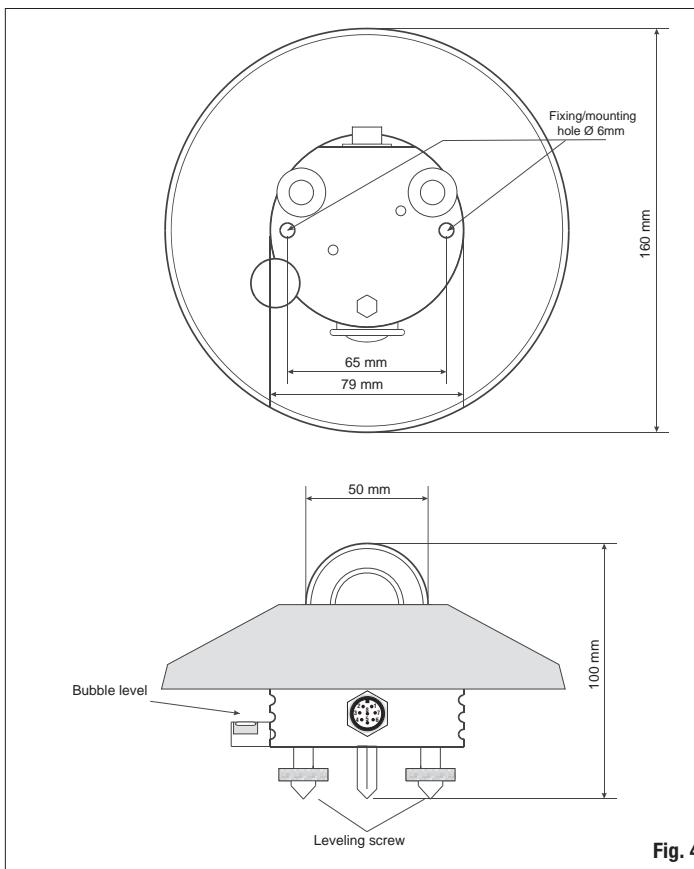

Fig. 4
- The LP UVB 02 radiometer is provided with a spirit level for carrying an accurate horizontal leveling. The adjustment is made by means of two leveling screws that allow to adjust the radiometer inclination. Use the two 6mm-diameter and 65mm-interaxial-distance holes to mount the instrument on a plane. Remove the shade disk to access the holes and reposition it after mounting (see Fig. 4).
Dimensions: Fig. 4